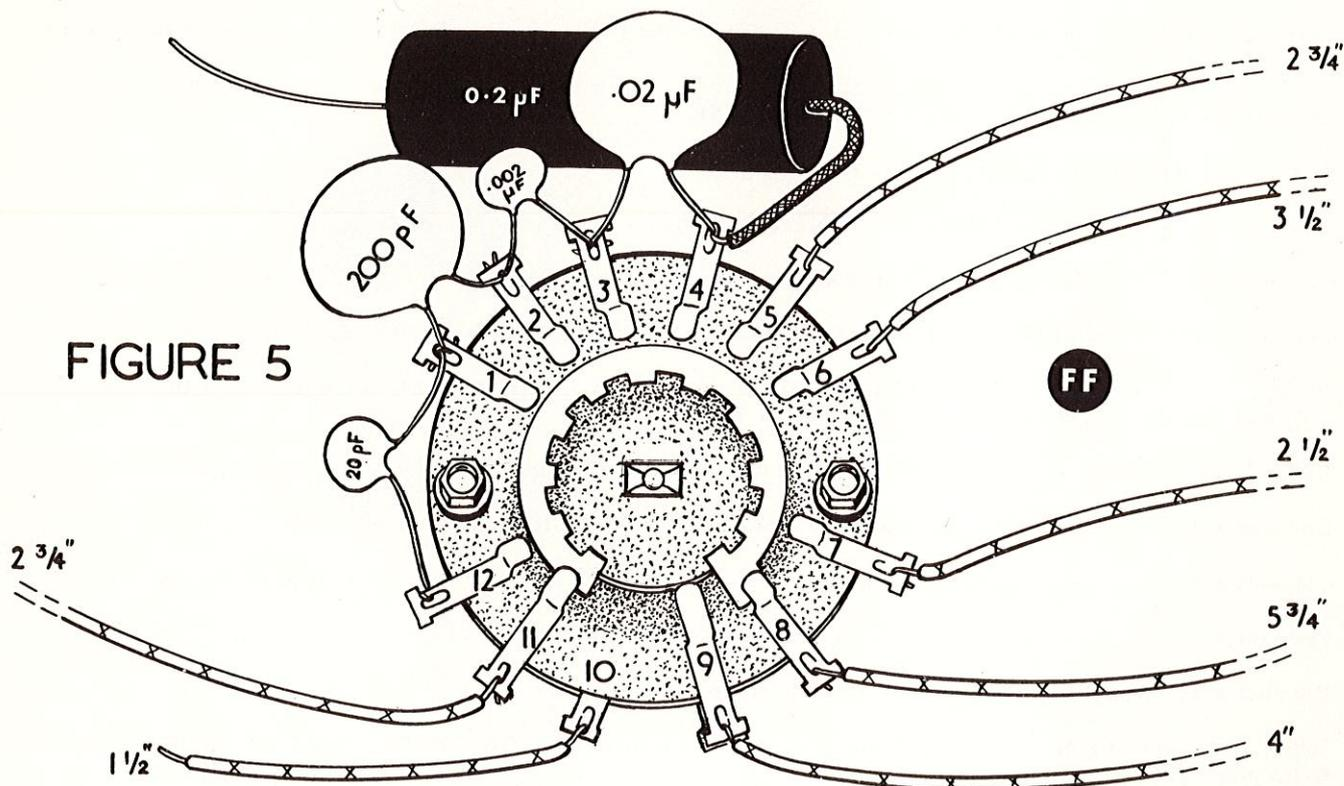

FIGURE 5
- () Select the HOR/FREQ. SELECTOR switch FF. This is the 12-tag wafer switch. Note that one of the contacts has tags on both sides of the wafer. Using this tag as a reference, position the switch as shown in Figure 5. Also note that tag 10 is on the shaft side of the wafer.
Refer to Figure 5 for the following steps:
- () Connect a 20 pF ceramic disc capacitor from FF tag 12 (NS) to FF tag 1 (NS).
- () Connect a 200 pF ceramic disc capacitor from FF tag 1 (S-2) to FF tag 2 (NS).
- () Connect a .002 μF ceramic disc capacitor from FF tag 2 (S-2) to FF tag 3 (NS).
- () Connect a .02 μF 500V ceramic disc capacitor between FF tag 3 (S-2) to FF tag 4 (NS).
- () Carefully check the switch wiring against Figure 5. Make sure that there is no short circuit from FF tags 1, 6, 7 and 12, to the nuts holding the switch together.